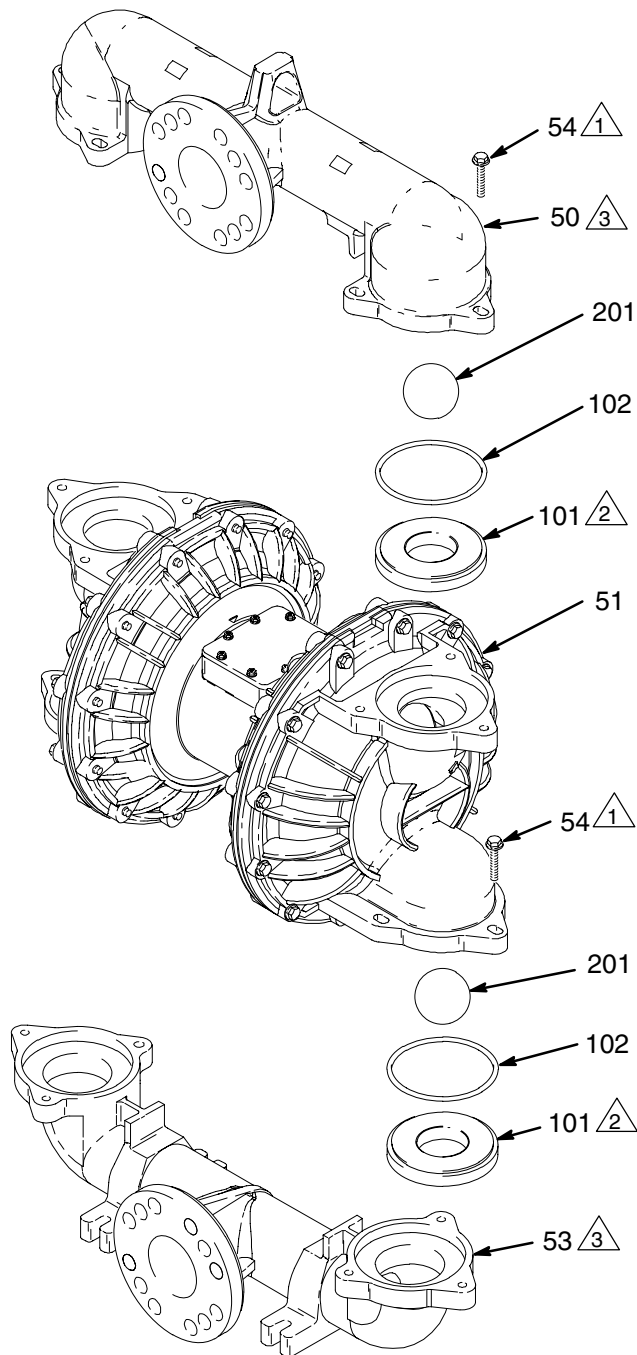

Fig. 6
### Disassembly (See Fig. 6)
### Reassembly (See Fig. 6)
2. Reassemble in the reverse order, following all notes in Fig. 6. Be sure all parts are assembled **exactly** as shown.
**NOTE:** To ensure proper seating, visually check that the manifold (50 or 53) is centered on the fluid covers (51) before you tighten the screws (54).